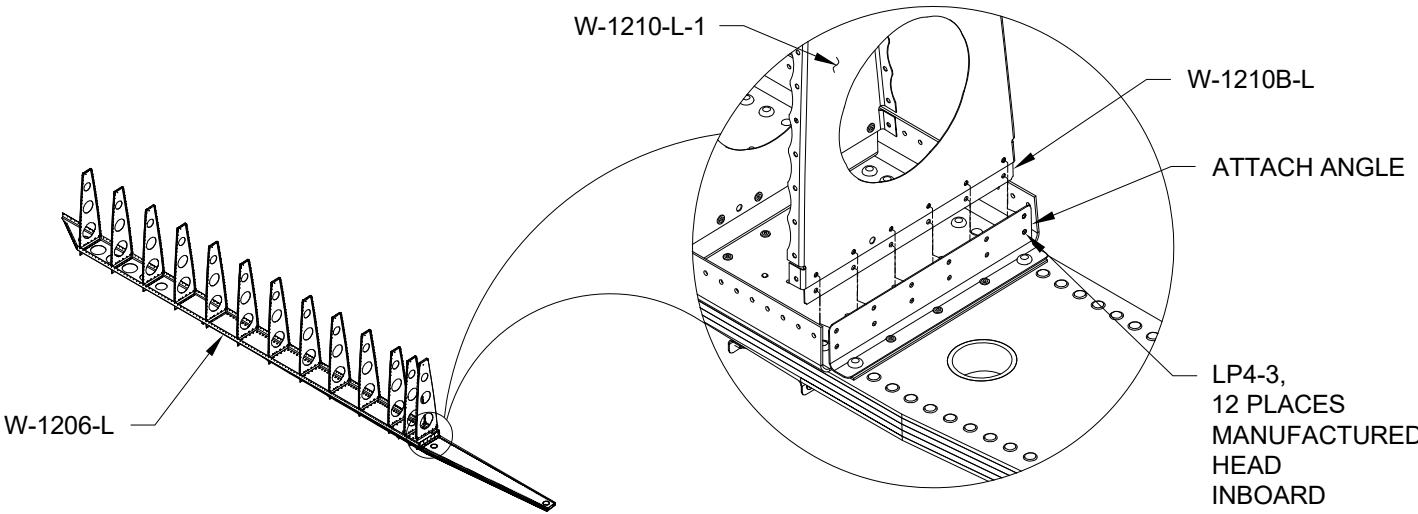

FIGURE 2: ATTACHING THE MAIN RIB AND DOUBLER
Step 6: Cleco then rivet the W-1210-L-1 Main Rib with the attached W-1210B-L Rib Doubler to the remaining attach angle on the W-1206-L Spar Assembly. See Figure 2.